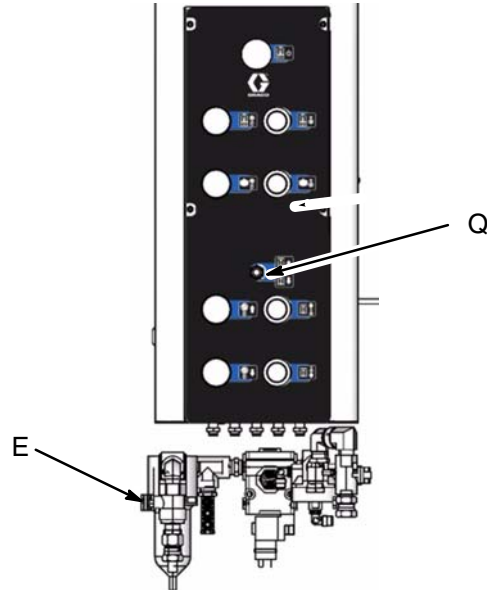

Fig. 15
1. Move the ram hand valve lever [(Q) in Fig. 15] to the OFF position. Shut off the air supply to the ram and pump.
Emergency stop the ram from moving by (Fig. 15):